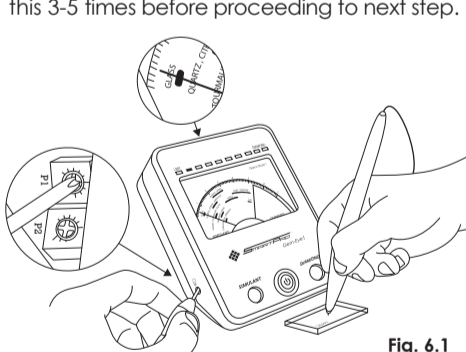

Fig. 6.1
Step 6. Press gently the probe pen onto the clear glass while adjusting the P1 potentiometer carefully using a small screwdriver until the needle of the panel display reached the center of the "Glass" bar (**Fig. 6.1**). Check this 3-5 times before proceeding to next step.